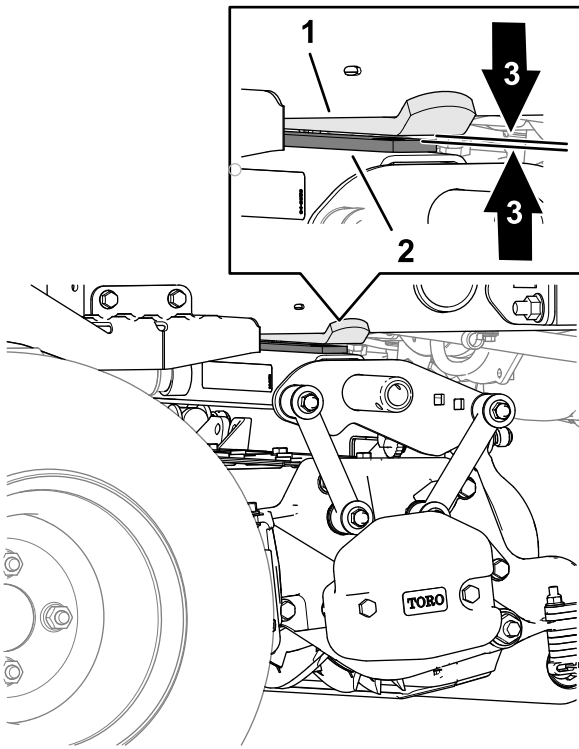

Figure 27
4. At the rear cutting unit, measure the clearance between the wear strap on the top of the rear cutting unit wear bar and the bumper stop (Figure 27).